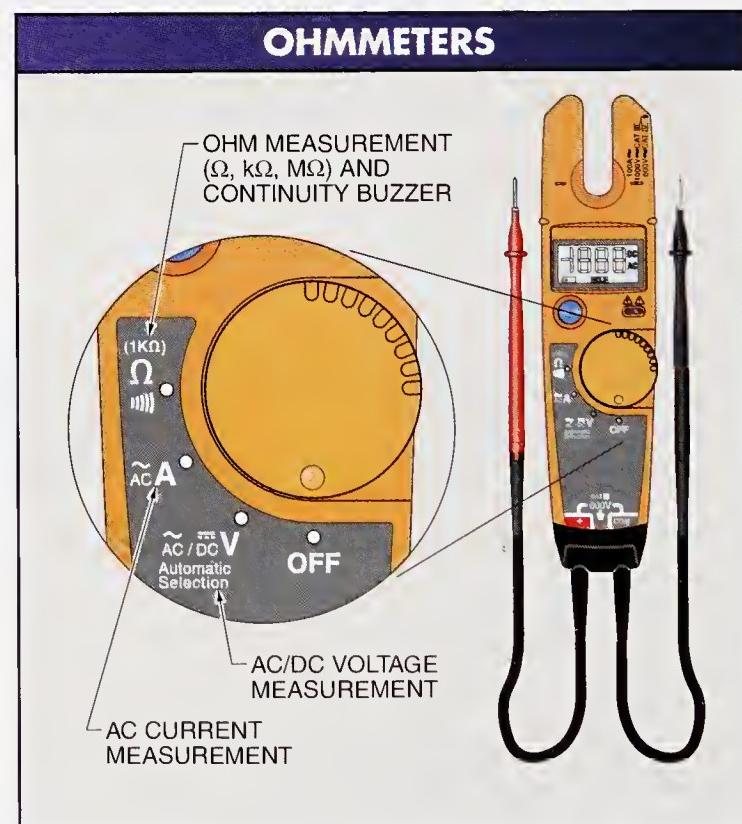

Figure 2-20. The amount of resistance (ohms) is measured in de-energized circuits or components.
An *ohmmeter* is a test instrument that measures resistance. See **Figure 2-20**. Resistance (R) is the opposition to the flow of electrons in a circuit. Resistance is measured in ohms (Ω). Higher resistance measurements are expressed using prefixes, as in kilohms ($k\Omega$) and megohms ($M\Omega$). Resistance measurements on permanent test instruments are displayed as Ω , $k\Omega$, and $M\Omega$. Prefixes are used to simplify the measurement displayed.